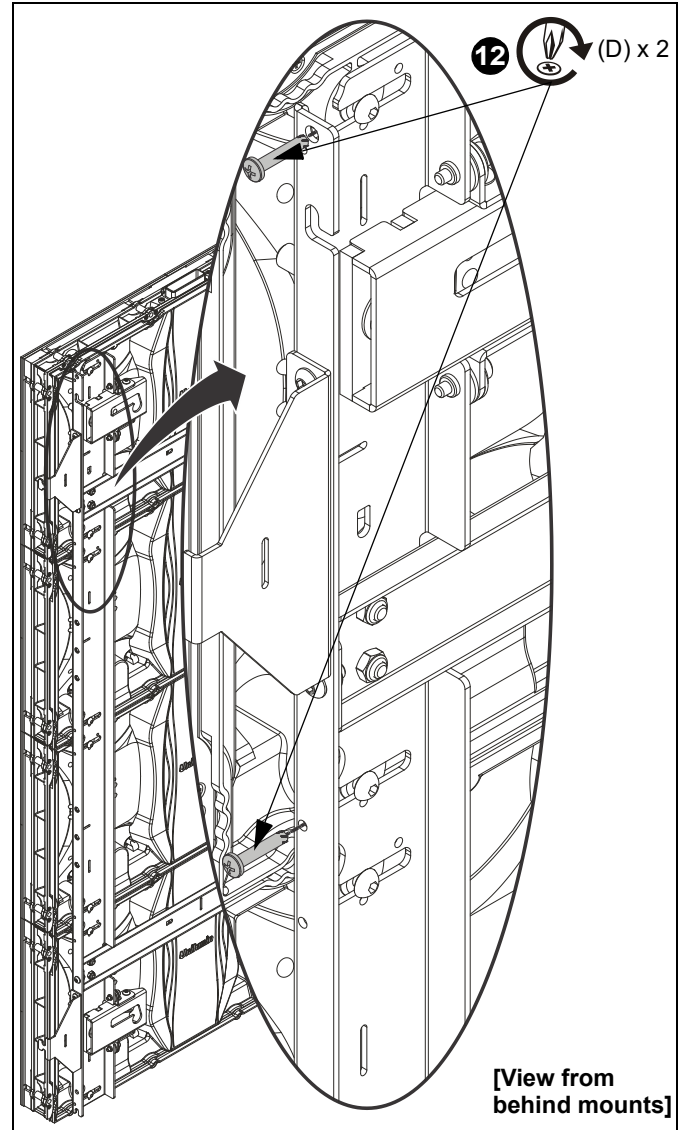

Figure 26
11. Install two 10-24 x 1-1/4" Phillips head self-tapping (D) right stop screws into the right side of each cabinet after the cabinets have been connected together.
12. Tighten right stop screws until contact is made with the mounting button on the cabinet. (See Figure 26)